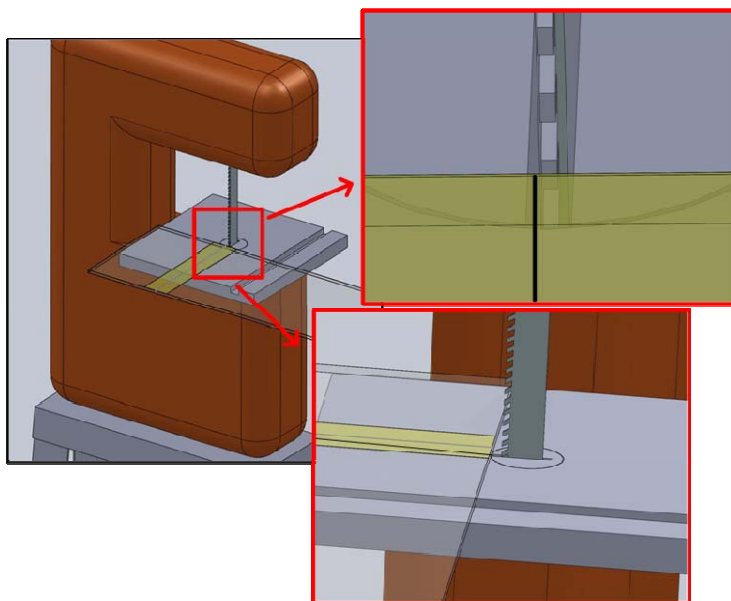

Figure 3: The line to be cut should be off-set from the blade to ensure that the resulting work piece will be the desired dimension.
C. Turn on the **Band Saw**. Place the acrylic sheet on the table of the **Band Saw** and align the band saw blade with the line drawn on the Packing Tape in Step 1C as shown in Figure 3.